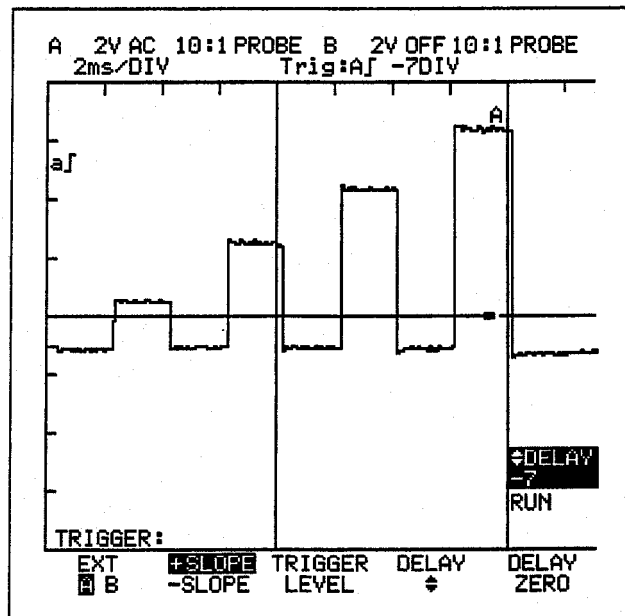

Figure 6.8
- Use **▽** to adjust the DELAY to -7 (refer to Figure 6-8).
Adjusting the time delay to -7 DIV has moved the trigger point to the seventh division on the screen and you now see seven divisions of information that occur before the trigger. (see Figure 6-8.). To look in more detail at the 50% pulse you can use ZOOM (The ZOOM Function not available on the 93). The ZOOM function expands the trace referenced to the fourth display division, and automatically adjusts the delay.